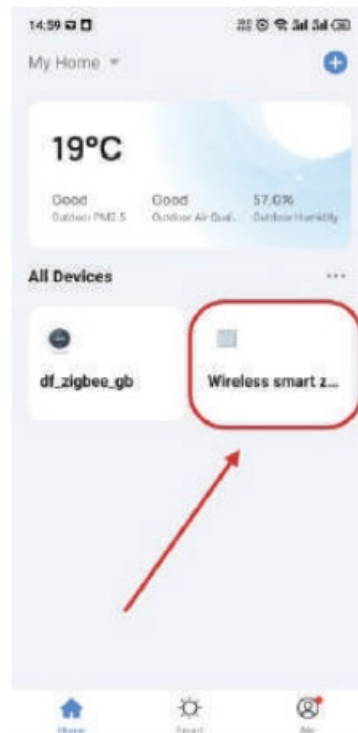

Fig3.10
- With the thermostat turned off, press and hold the “down button” until the thermostat screen flashes quickly and displays the “ZigBee” icon, and then operate according to the following figure (Fig3.10-Fig3.13).